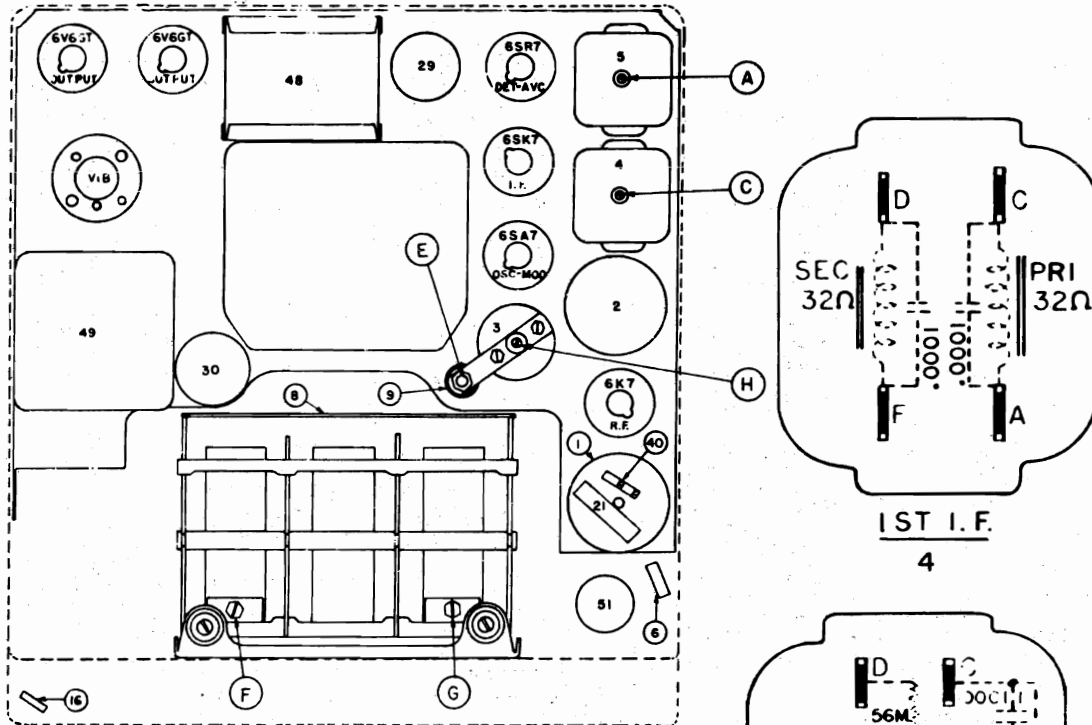

FIG. 3--PARTS LAYOUT--Top View
- (b) Connect the signal lead of the signal generator to the R.F. section of the gang condenser (Illus. F, Fig. 3) through a .1 mfd. condenser.
- (f) Adjust the four screws on the two I.F. coils (Illus. A,B,C & D, Figs. 3 & 4) until maximum output is obtained. Repeat these adjustments with as low an output from the signal generator as possible for a readable indication on the output meter.
- (d) Adjust the trimmer (Illus. E, Fig. 3) for maximum output.
- (d) Adjust the trimmers (Illus. F, G, Fig. 3) for maximum output.
- (d) Adjust the oscillator coil iron core aligning screw (Illus. H, Fig. 3) while rocking the condenser gang back and forth through the signal until maximum output is obtained.
- (b) Adjust the antenna trimmer (Illus. G, Fig. 3) for maximum output.